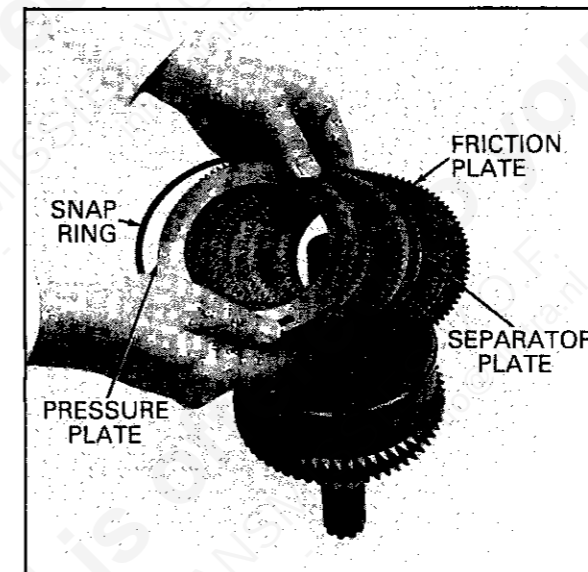

FIG. 25 CLUTCH PACK INSTALLATION
20. Assemble a friction plate followed by a separator plate and alternate friction and separator plates until eight friction and seven separator plates are assembled into the clutch cylinder (Fig. 25).